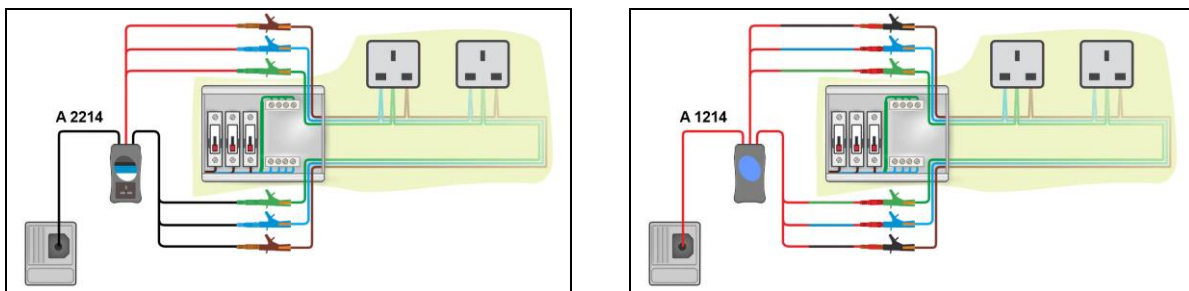

Figure 5.21: Step 1 – measurement of resistance  $r_1$ ,  $r_2$  and  $r_N$  with A 2214 (left) and with A 1214 (right)
- ❑ **Connect** test leads of Ring Continuity Adapter A 2214 or EASI Switch A 1214 to the ring final circuit. The electrical installation must be de-energized during the test. (See Figure 5.21:)